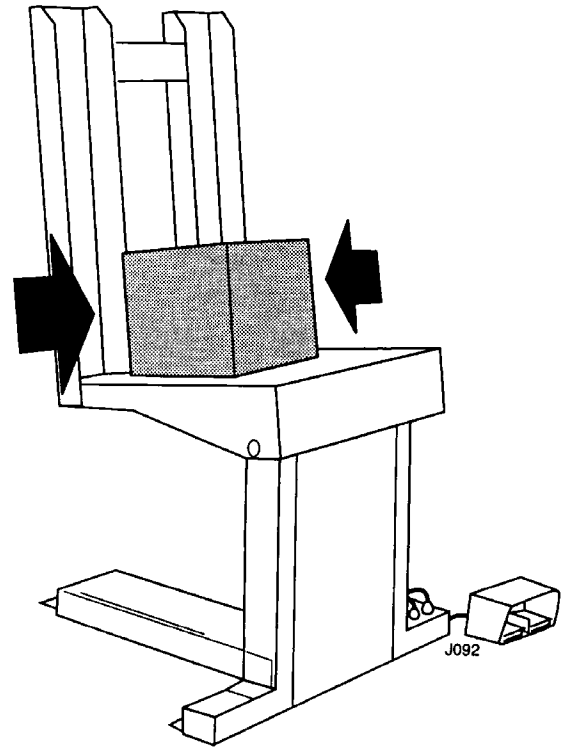

Fig. 6. Center the Load
| Fig. 6 | Center the Load | 8 |
3. The load should be balanced in the side-to-side direction. Whenever possible, place the load in the center of the tilting platform, as shown in Fig. 6. If the load is off-center on the pallet, place the heaviest part of the load near the back of the tilt platform – never near the front!
2. Before lifting, be sure the parts container is pushed up against the tilt platform, as shown in Fig. 4. Be sure the load is balanced side-to-side, as shown in Fig. 6.